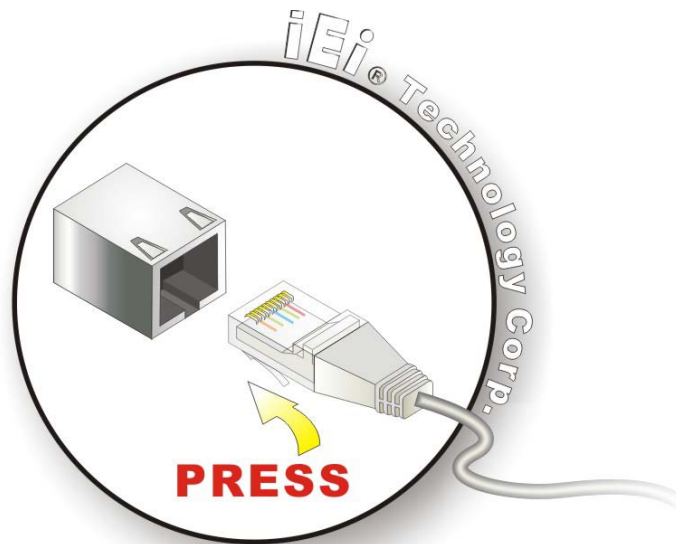

Figure 4-15: LAN Connection
Step 2: Align the connectors. Align the RJ-45 connector on the LAN cable with one of the RJ-45 connectors on the IMB-C2160. See **Figure 4-15**.